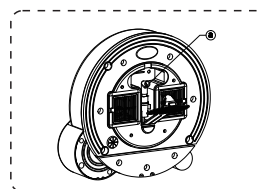

Fig.9.2.3
- Figure 9.2.3, screw on the cup lid and nozzle, and put them back to the left side nebulizer chamber.